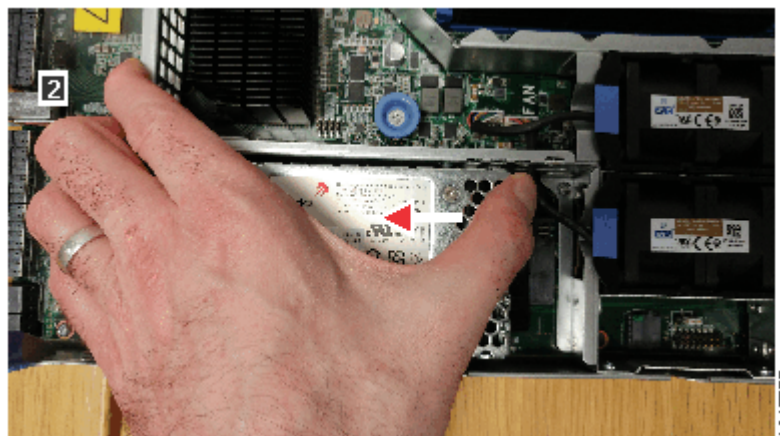

Figure 89. Sliding the node battery out of its position
7. Slide the node battery toward the latch until it stops, as shown in Figure 89 on page 131.